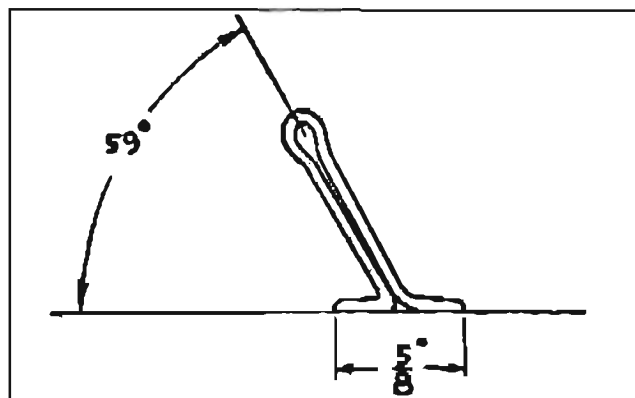

Fig. 6-109 Tool for Removing Upper Half of Main Bearing
5. Make a tool for removing upper bearing shell as shown in Fig. 6-109. KMO 734 can also be used.